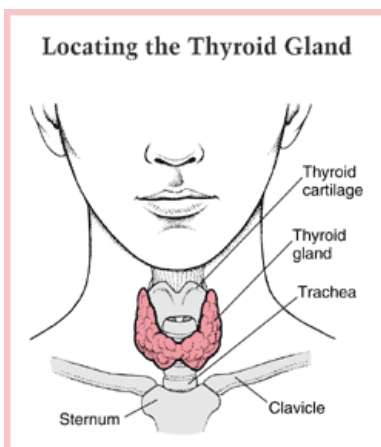

Figure 1: Location of the Thyroid
- THYROID COUNT (reading) - Hold detector close to your thyroid at a distance of 2 cm (see Figure 1: Location of the Thyroid). Take a reading after 60 seconds and record the result in the thyroid screening log (Appendix A). Calculate the net thyroid count by subtracting the background and record the result in the thyroid screening log (Appendix A).